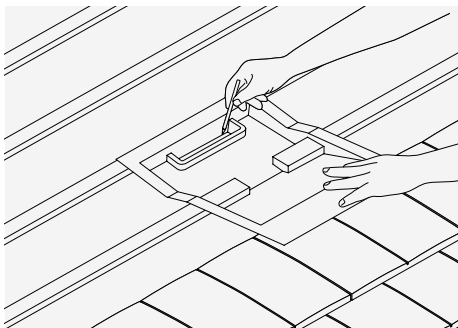

Fig. 4 - Mark aperture
- 2 Mark airway aperture on underlay (Fig. 4).